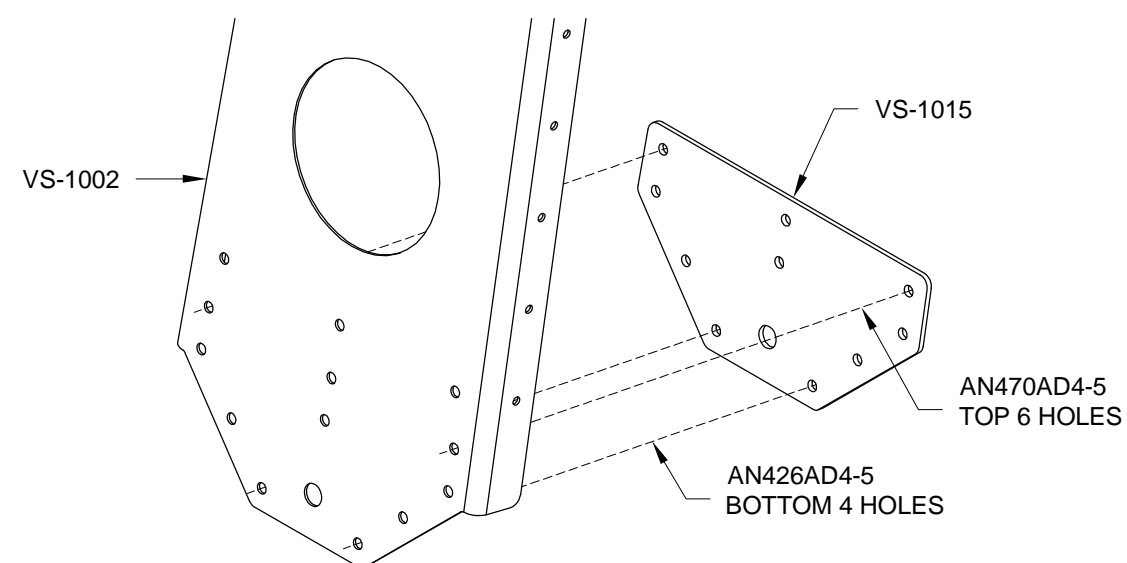

FIGURE 2: FRONT SPAR DOUBLER RIVETS
Step 2: Attach the VS-1015 Front Spar Doubler to the VS-1002 Front Spar using the rivets called out in Figure 2.